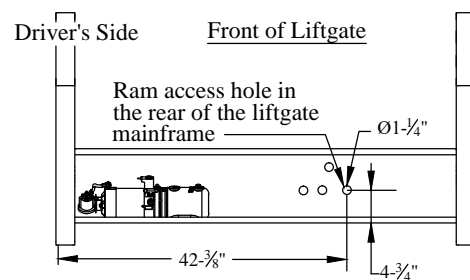

Figure 12: Spare tire access.
2. **Remove** the black plastic plug from the mainframe in the locations shown (Figure 12).